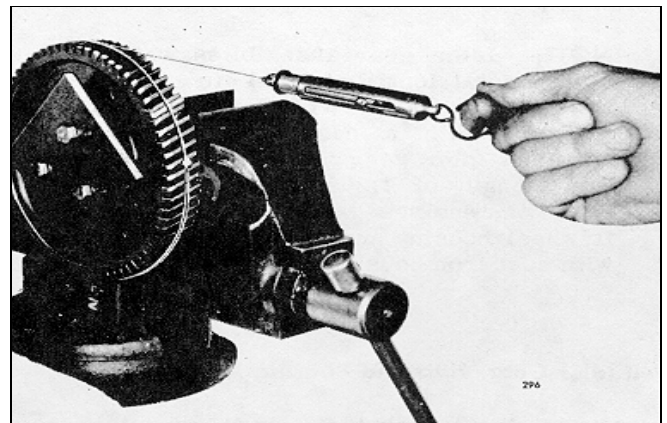

Fig. 7 - Checking Pre-Load of Idler Gear Bearing
4. Tie one end of a piece of lintless 1/8" cord around a 1/8" round piece of wood (or soft metal stock). Place the wood between the teeth of gear, then wrap the cord around the periphery of the gear several times. Attach the other end of the cord to spring scale, J 8129 (Fig. 7). Maintain a straight, steady pull on the scale, 90° to the axis of the hub, and note the pull, in pounds and ounces, required to start the gear
3. Clamp the idler gear assembly and fixture in vise as shown in Fig. 7.
4. Attach the cord to the idler gear and spring scale and check the pre-load as outlined in item 4 of the first method.